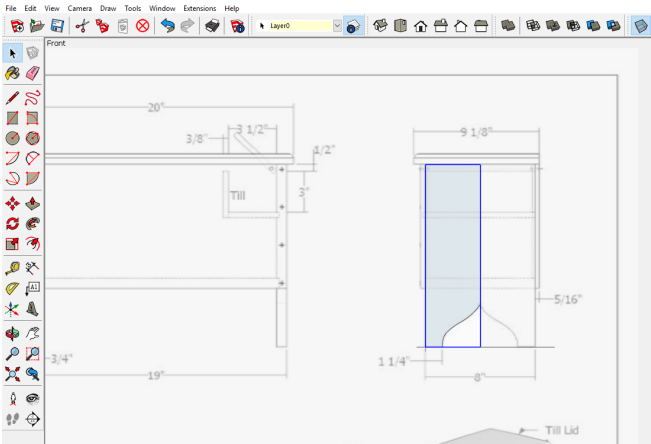

Figure 4. Trace over the half-shape of the End
Step 2 Figure 4 shows the scanned image in SketchUp. On top of that image use the Line and Arc Tools to trace over the shape of the End component. It helps to accurately place Guidelines with the Tape Measure to accurately size the shape to the exact dimensions shown in the drawing. Then double click the mouse on the traced shape, right click, and choose Make Group from the pop-up menu. You can see the highlighted selected group in Figure 4.